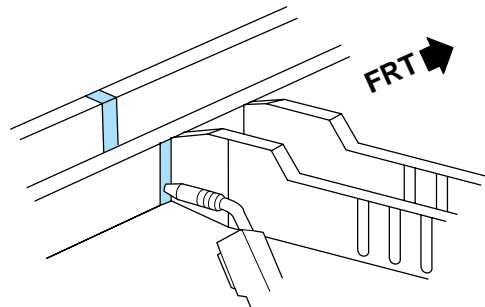

Fig. 4.37 — Install the New Rail Section
- 6 Check the position of the service rear rail section using three-dimensional measuring equipment and tack weld in three locations along all three sides of the rail. Stitch weld along the entire seam and replace factory welds, as necessary (Fig. 4.37).